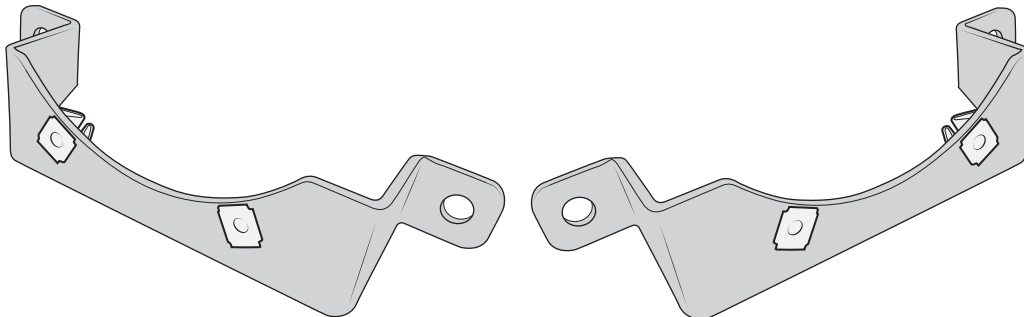

Figure 3
- ii. Insert four provided square push-in nuts for each fog light from rear of stamping and bracket as shown (fig. 3).